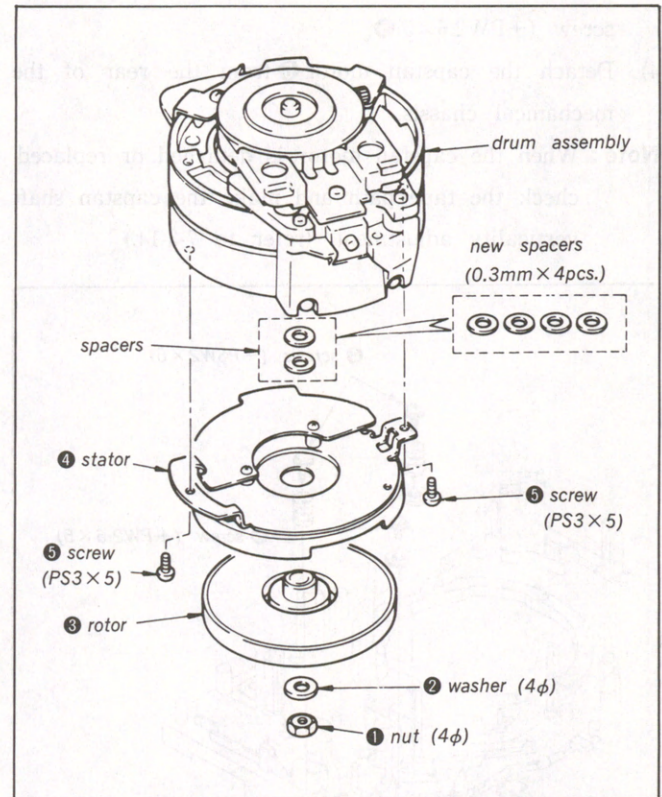

Fig. 7-21. How to detach the stator and the rotor when replacing the drum.
- 2) In case of N.G. in step 1, do not use the detached spacers. Instead, combine the accessory spacers (0.3mm×4pcs) with one another to fix the gap correctly (Fig. 7-21)
7-3-12. How to Detach the Stator and the Rotor when Replacing the Drum (Fig. 7-21)